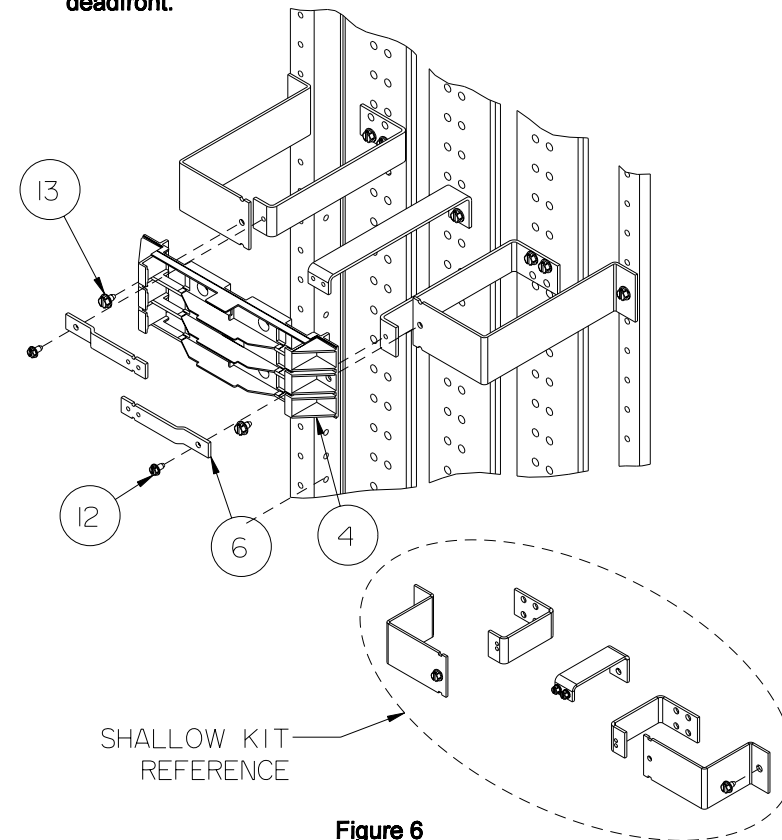

Figure 6
7. Reference fig. 6 - Installing the Top Barrier and Branch Connectors. Insert a 1/4-20 X 3/8" screw (item 13) through each of the 0.25" diameter holes in the Top Barrier (item 4) and into the 0.228" diameter holes in the Barrier Supports and tighten. Insert a 10-24 X 3/8" screw (item 12) through the 0.218" diameter hole in a Branch Connector (item 6) and into the 0.171" diameter hole in the A∅ Strap and tighten. Insert a 10-24 X 3/8" screw (item 12) through the 0.218" diameter hole in a Branch Connector (item 6) and into the 0.171" diameter hole in the C∅ Strap and tighten. Torque all hardware as specified on the rear of the deadfront.